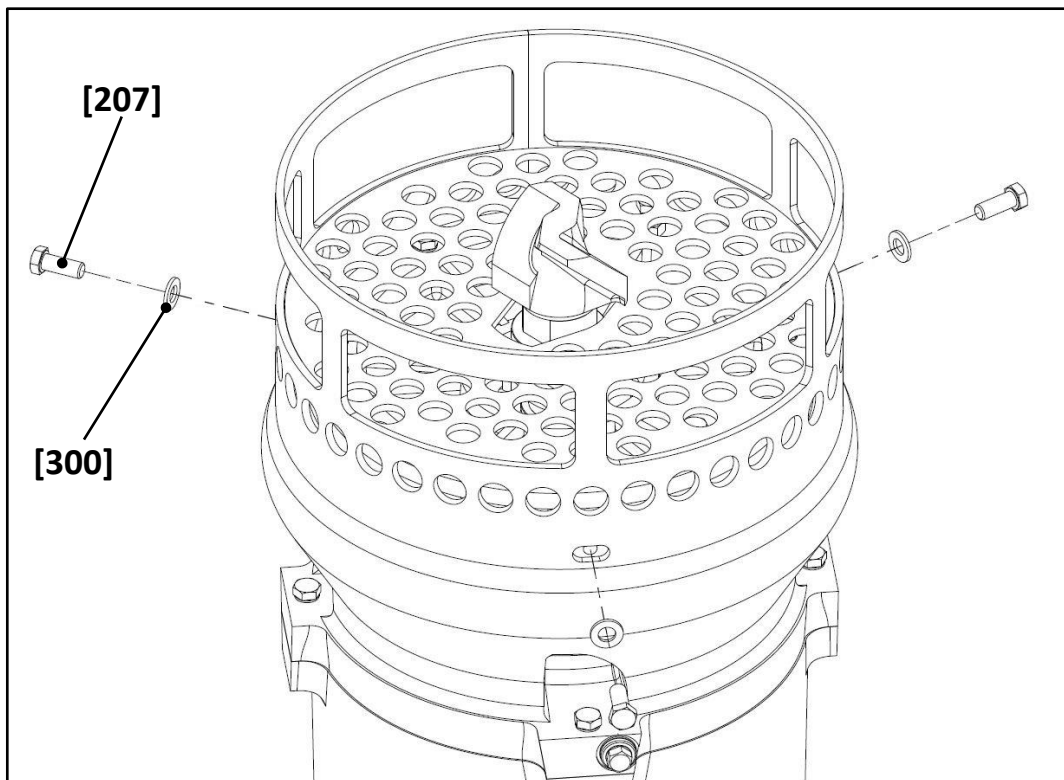

Fig. 25
- remove the n°3 bolts [207] and related washers [300] (see Fig. 25);